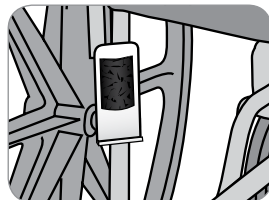
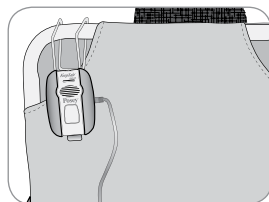

Fig. 17
Fig. 19
Use Saddle Bracket (Cat. 8278N) to attach alarm to a wheelchair (figs. 17 and 18). Use Wire Bracket to attach alarm to a Geri-chair frame (fig. 19).
2. Wrap the saddle strap firmly around the wheelchair frame (fig. 17).
3. Attach the bracket to the back of the geri-chair by pulling the wire away from the alarm to create an opening wide enough to fit over the geri-chair (fig. 19). Slide the bracket onto the geri-chair and push down to ensure a snug fit.